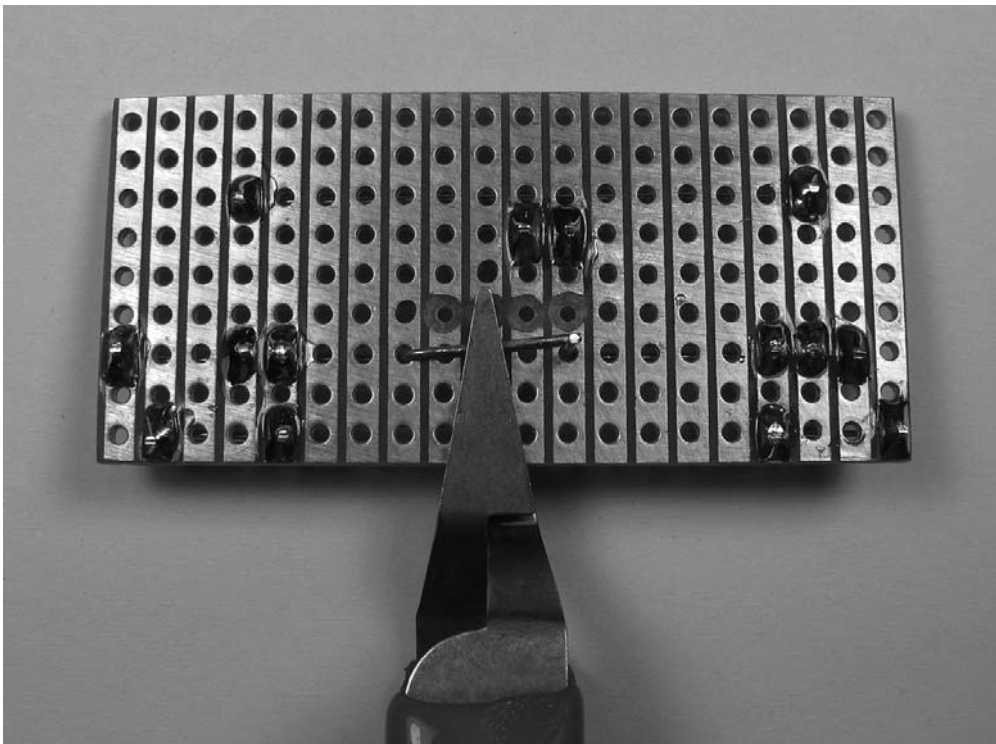

Figure 3-6 A powered-up Arduino board with LED lit.
7. On the bottom of the board, bend the jumper from M7 to I7 and snip it so that it's just long enough to touch the lead at I7. Press it flat against the bottom of the board and hold it there with a small spring clamp as shown in Figure 3-6.